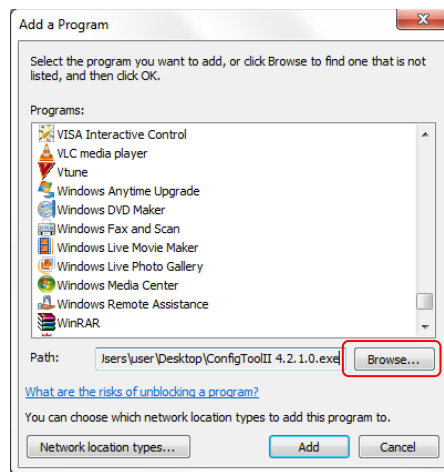

Figure 88 - Browsing for executable to add
- Click the “Browse...” button. Refer to Figure 88.